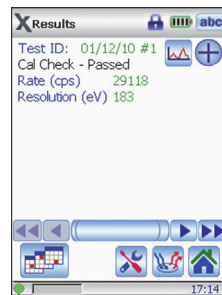

Figure 6-4 Results
9. Tap the Spectrum button () to view spectral results (see Figure 6-4 on page 16).